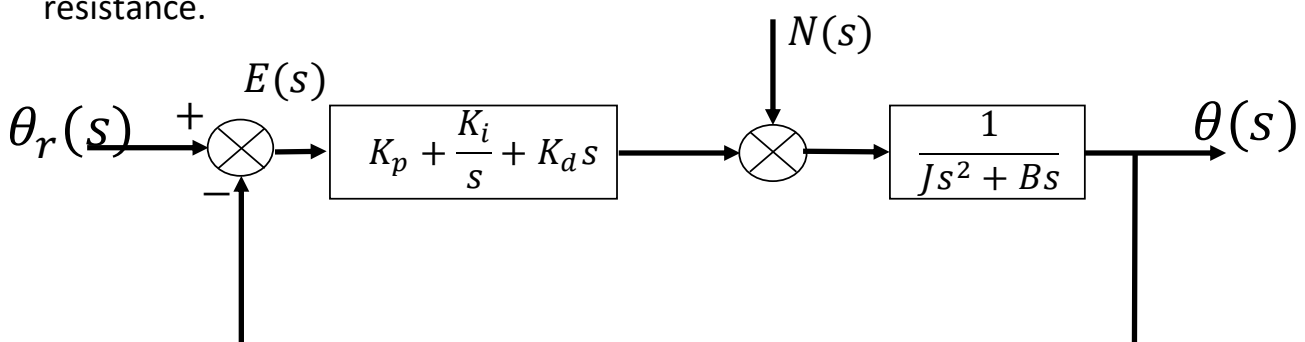

Figure 7
10. Let us now setup a somewhat more complex system and check disturbance and tracking attenuation and performance. Create a schematic in Simulink that represents the system as shown in Figure 7. This could be a joint that's subject to an external force $N(s)$. J is the joint inertia and B is the frictional resistance.